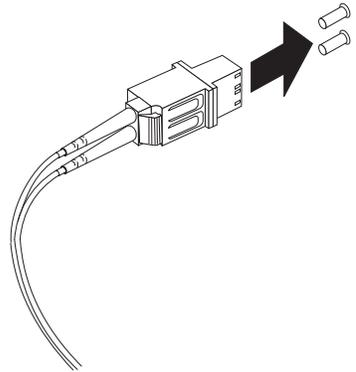

Figure 35. Removing the LC-SC cable adapter protective caps
3. Remove the two protective caps from the LC connector end of the LC-SC cable adapter as shown in Figure 35. Save the protective caps for future use.